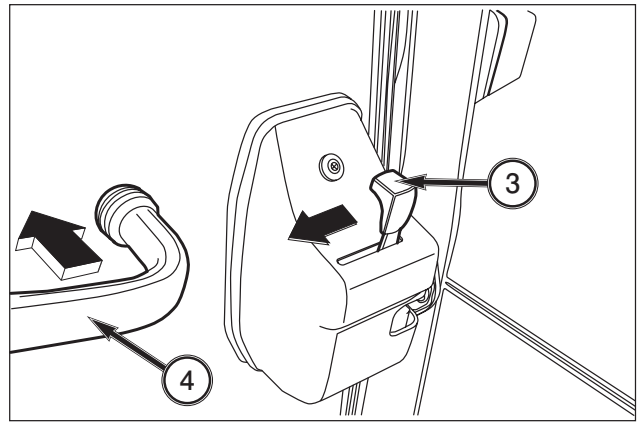

FIG. 5-46
FIG. 5-46: To open the door from inside the cabin, move the door lever(3) rearward and push door frame(4). To close the door, grasp the door handle(2) or door frame(4) and close slowly.